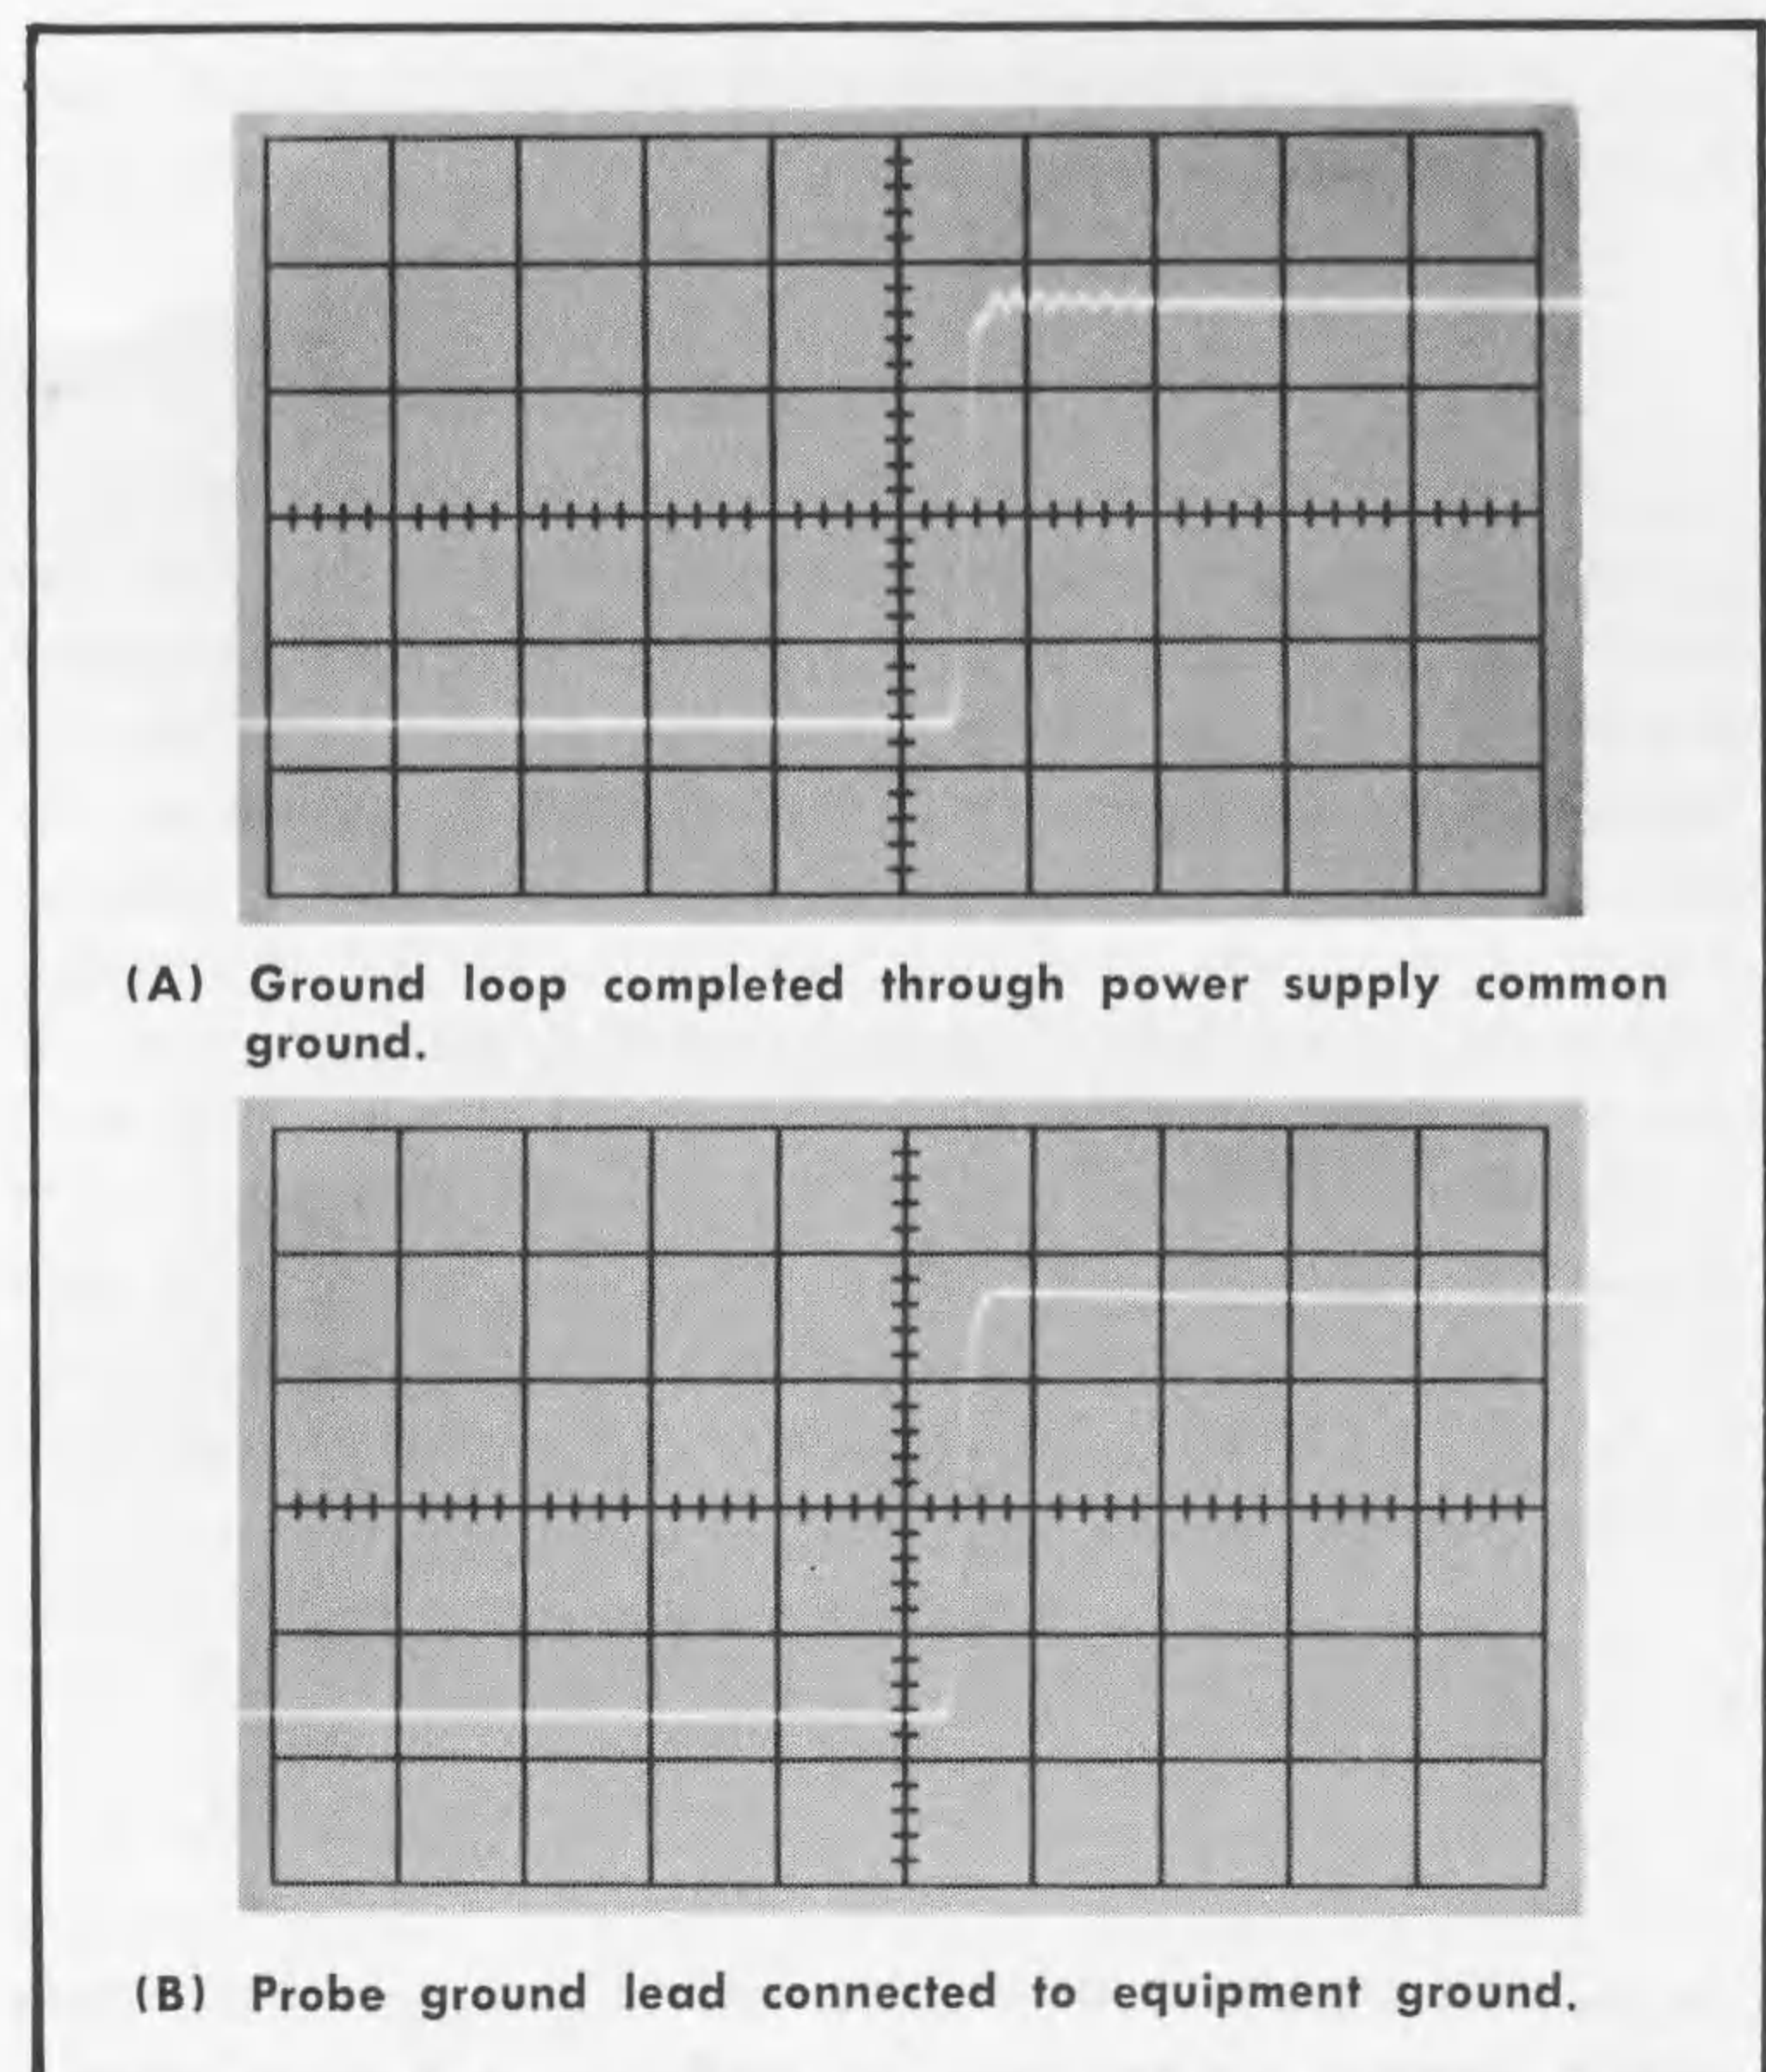

Fig. 2-12. Reducing ringing caused by ground loop.
**Ringling.** It is not uncommon to have ringling accompany a waveform presentation. It usually results from inductance associated with the reference or signal leads. If the AC supply common (ground) is used as the reference lead, the length of wire involved introduces considerable inductance. To reduce inductance and the resultant ringling, use the shortest possible probe ground lead and connect it to a ground point as near the signal source as possible. See Fig. 2-12. If ringling persists, connect the oscilloscope ground jack to the equipment under test, using the shortest possible lead. Then disconnect the external power leads and operate the oscilloscope on its internal battery power.